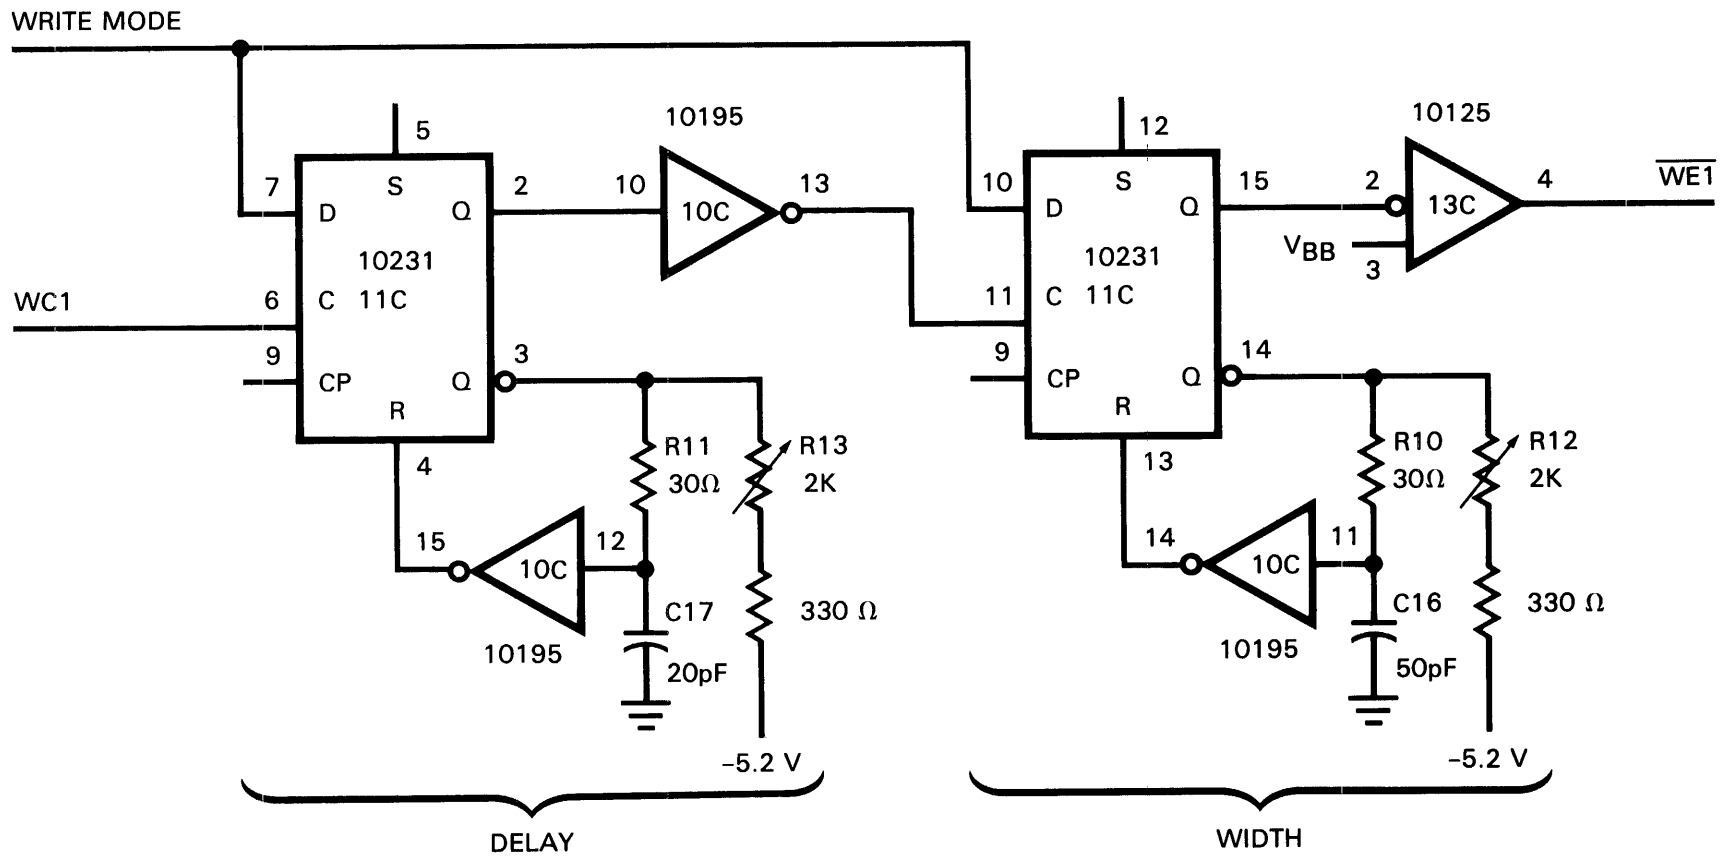

Figure 4.16 Block Diagram of Record Memory--Write Enable Circuit
4.6.3 Figure 4.16 shows the write enable generator circuit (for phase 1 only). This circuit is enabled to operate only if the signal WRITE MODE is high. This signal comes from the Record Control board and is directly controlled by the MPU. If Write Mode is high, then when the clock goes high (WC1) the first flip-flop (11C-2) goes high. The Q output (11C-3) is pulled low by the resistor R13 with the capacitor C17 determining the time required to reach the threshold level of the 10195 (10C-12). When the threshold is reached, the output of the 10195 (10C-15) goes high and resets the 10231 (forcing 11C-2 low and 11C-3 high). This also charges C17 back up to a high. The resistor R11 (30  $\Omega$ ) limits the charging current to C17 and reduces any tendency for ringing on the positive edge of 4C-3. When 4C-2 goes low, the output 10C-13 goes high and clocks the second 10231 (forcing 11C-15 high and 11C-14 low). The RC time constant of R12 and C16 then determines the time delay until the output 10C-14 goes high and resets the 10231 (11C-15 low and 11C-14 high). Note that the next WC1 clock may be received before the second flip-flop has completed its cycle.